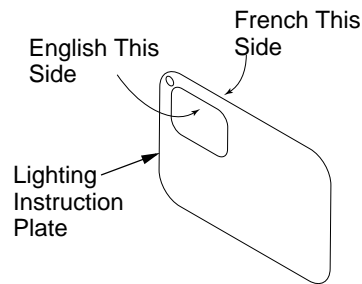

Figure 18 - Applying English and French Conversion Labels over Existing Certification Labels on Lighting Instruction Plate
1. Apply the English and French conversion labels over the top of the existing certification labels (see Figure 18). Existing certification labels are located on the lighting instruction plate inside the gas valve compartment area. With permanent ink, print the previous model number on the label in the space provided (see Figure 19).